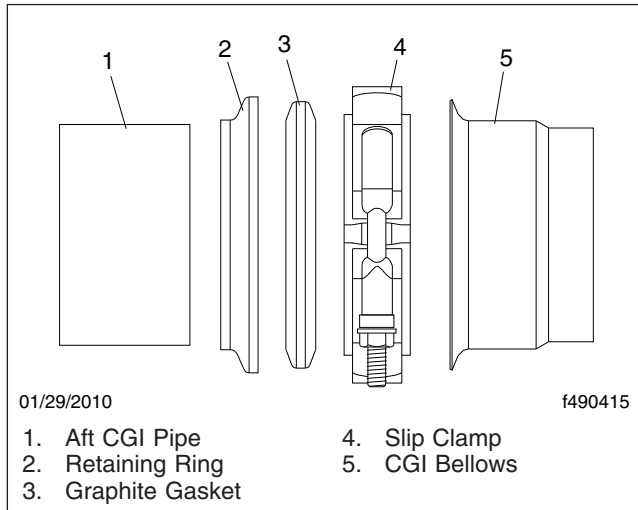

Fig. 10, Aft Facing Slip Clamp Installation
11. Slide the slip clamp, with the retaining ring and graphite gasket ring, on the aft CGI pipe. See Fig. 10 for proper installation.